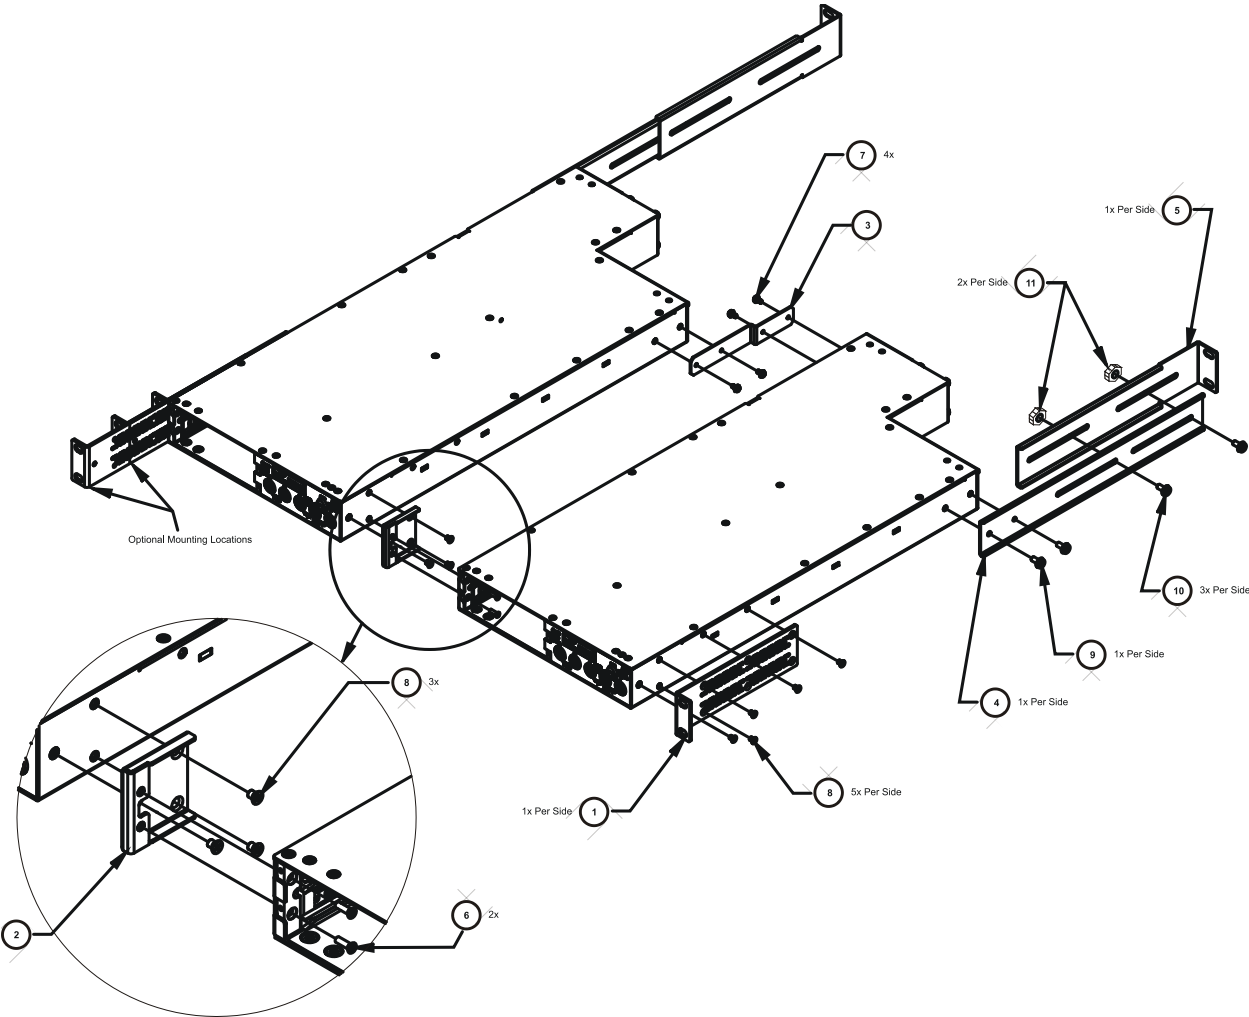

FIGURE 2-7: DUAL HALF RACK INSTALLATION DIAGRAM (EXPLODED FRONT VIEW)
- 2) Using a #2 Phillips screwdriver, install the rack ears (P/N: 41-0482-009) on the front of the EX1200s using five (5) 6-32 x 3/8" flat head Phillips stainless steel screws (P/N: 37-0114-025) for each rack ear. One ear should be installed on the left side of one chassis, while the other ear is installed on the right side of the other chassis. Note that the "Optional Mounting Locations" in Figure 2-7 allow the EX1200 to be installed in a rack either flush or recessed.
- 3) Next, attach a unit support bracket (P/N: 41-0482-011) to each EX1200 using two (2) 6-32 x 3/8" pan head Phillips SEMS screws (P/N: 37-0028-037) for each bracket (see Figure 2-7). Note that the bracket should be installed on the same side as the rack ear installed previously.
- 4) Place the rear rack support brackets (P/N: 41-0482-011) on the inside of the unit support brackets installed in step 3 and loosely secure them using two (2) 8-32 x 3/8" pan head Phillips SEMS screws (P/N: 37-0073-037) and two (2) KEPS hex nuts (P/N: 37-0200-832) per bracket. Loosely installing the hardware will allow the rear support bracket to adjust to the proper length once installed in a rack.
- 5) Install the front mating bracket (P/N: 41-0493-006) on the right side of the EX1200 where the rackmount/support brackets installed on the left using three (3) 6-32 x 3/8" flat head Phillips stainless steel screws (P/N: 37-0114-025).
- 6) Install the rear mating bracket (P/N: 41-0493-007) on the right side of the EX1200 where the front mating bracket was installed previously using two (2) 4-40 x 0.187 pan head Phillips Zinc screws (P/N: 37-0011-018).
- 7) Connect the two EX1200s by installing two (2) 4-40 x 3/8" flat head stainless steel Phillips screws (P/N: 37-0100-037) through the right EX1200 capture the front mounting bracket. Then, use two (2) 4-40 x 0.187 pan head Phillips Zinc screws (P/N: 37-0011-018) to connect the rear mating bracket to the right EX1200.